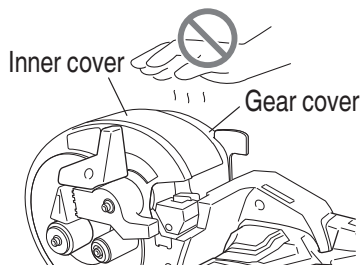

Fig. 1
4. If you use the machine continuously, the inner cover and gear cover can become hot. After such continuous use, do not touch the inner cover and gear cover. (Fig. 1)